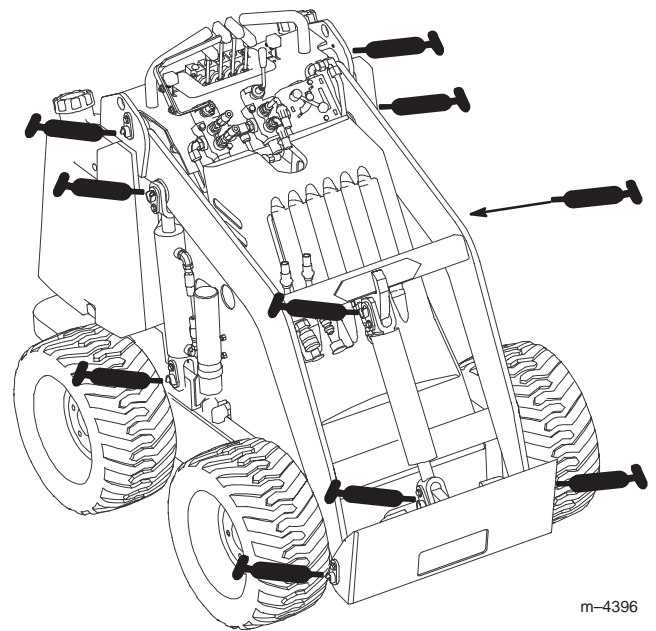

Figure 21
3. Connect a grease gun to each fitting (Fig. 21 and 22).